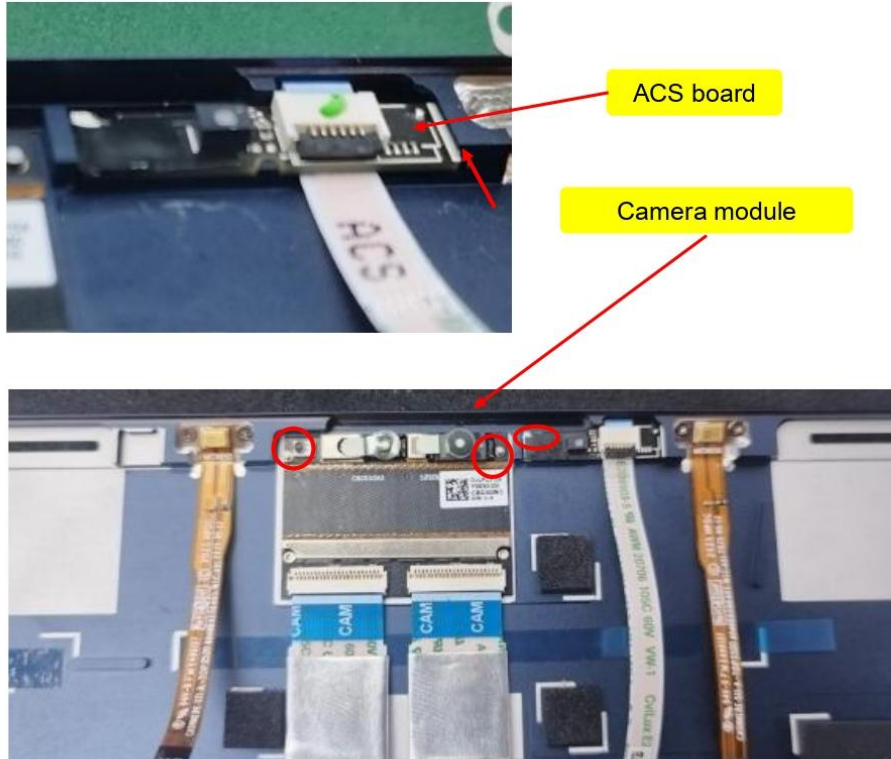

Figure 1
1. Remove the camera/ACS (Figure 1)